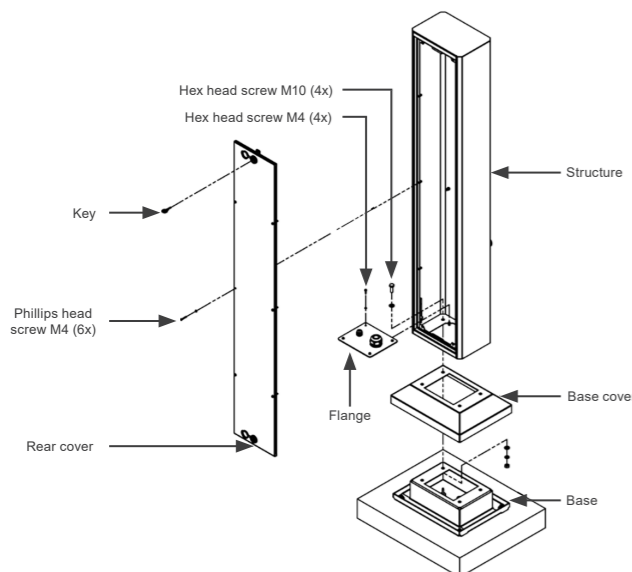

Figure 4.7: Exploded view of the assembly
The assembly of the totem to the product's fixing base is shown in Figure 4.7, using four (04) M10 hex bolts, which are supplied with the product. The recommended tightening torque is 35 Nm.